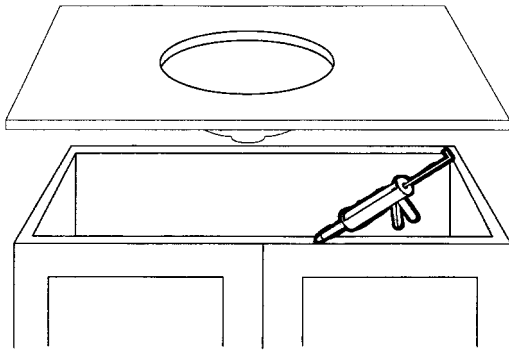

Figure 22
- Place a 1" (25 mm) spot of flexible adhesive, such as Silicone Sealant for DuPont CORIAN®, every 12" (305 mm) around the top cabinet support (see Figure 22).